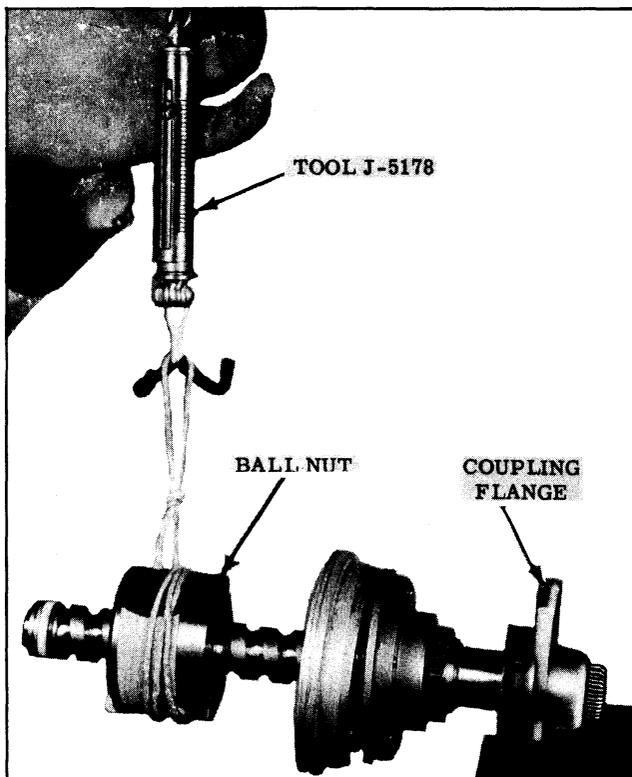

Fig. 5-51 Checking Over-Center Preload
5. Slowly pull on spring scale and check over-center preload. (See Fig. 5-51) Preload should be 1 to 6 lbs.